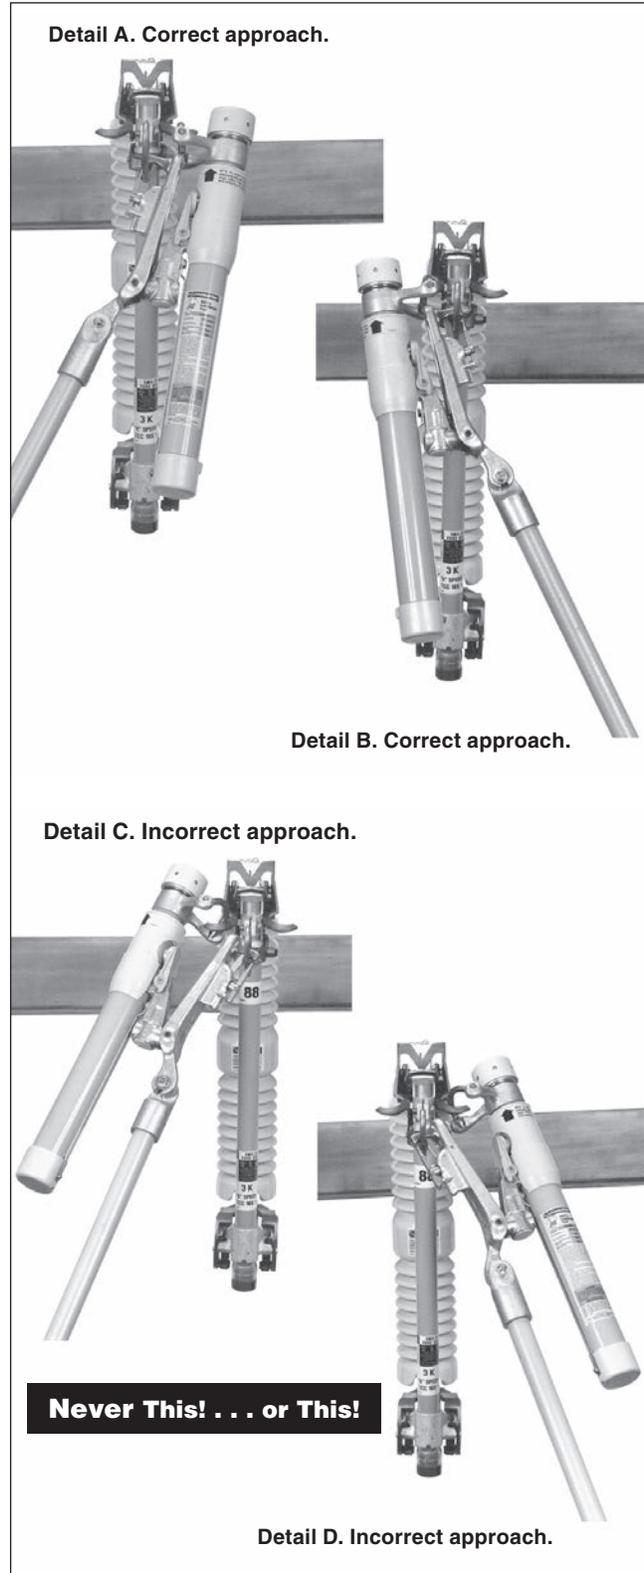

Figure 1. Correct and incorrect approach for Loadbuster—The S&C Loadbreak Tool.
- Never position the Loadbuster tool so its outer tube obscures the line of vision. See Figure 1 on page 10 for correct positioning.
7. **OPERATION.** Never position the Loadbuster loadbreak tool so the outer tube obscures your line of vision. See Figure 1 on page 10 for correct positioning.
As shown in Figure 1, Detail A or B, the Loadbuster tool must be attached so it reaches across in front of the fuse cutout, disconnect, power fuse, or fuse limiter. That is, the Loadbuster anchor must be hooked to the attachment hook on the far side of the device. The Loadbuster tool should never be attached with its anchor hooked on the closest side of the fuse cutout or other device as shown in Detail C or D. Attaching the tool in this manner would not only obscure the operator's line of vision, but it could also result in placing a bending stress on the tool and make disengagement difficult.
When the Loadbuster tool is properly attached, as shown in Figure 1, Detail A or B, a downward pull of the pole to open the fuse cutout, disconnect, power fuse, or fuse limiter extends the Loadbuster tool and charges an internal spring. At a predetermined point in the opening stroke, a trigger inside the tool trips, releasing the charged spring—thus separating the internal contacts and interrupting the circuit. Successful operation is independent of the speed with which the fuse cutout, disconnect, power fuse, or fuse limiter is opened.